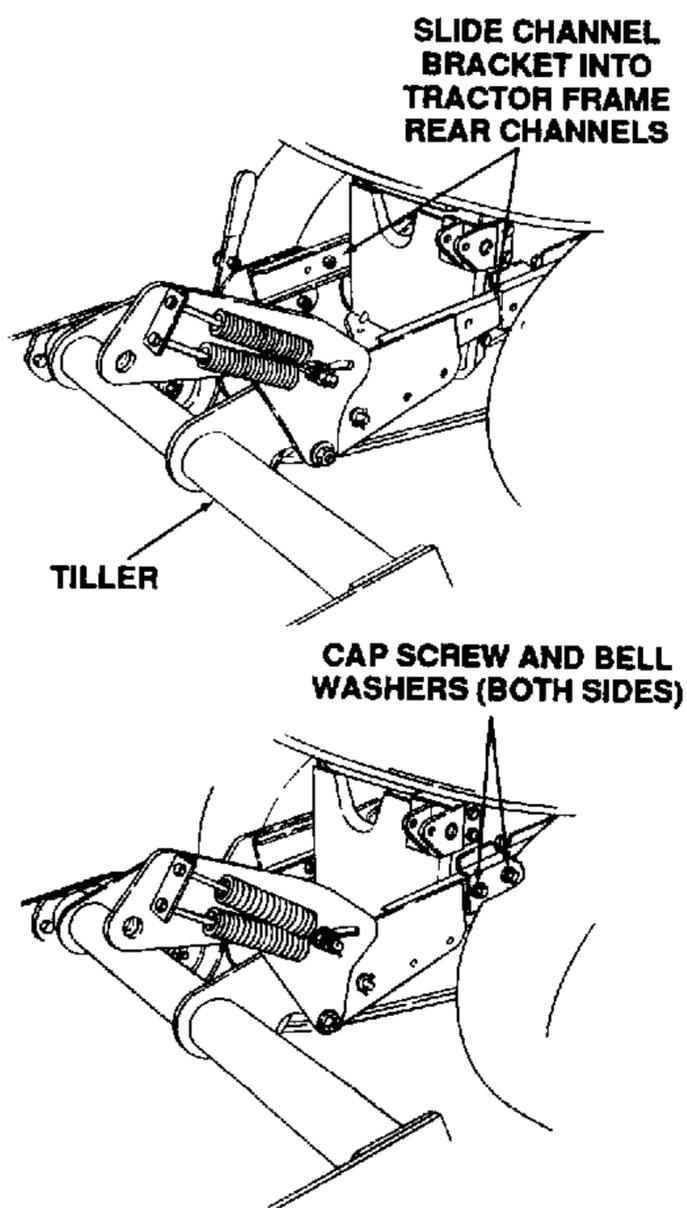

Figure 7-60. Attaching Tiller To Tractor.
2. Align both channel brackets with the rear frame channels of the tractor and carefully slide the tiller forward until the channel brackets are fully inserted into the frame channels. See Figure 7-60.
3. Align the mounting holes of the channel brackets and frame, then secure with the four hex cap screws (22) and bell washers (23). Refer to Figure 7-60.